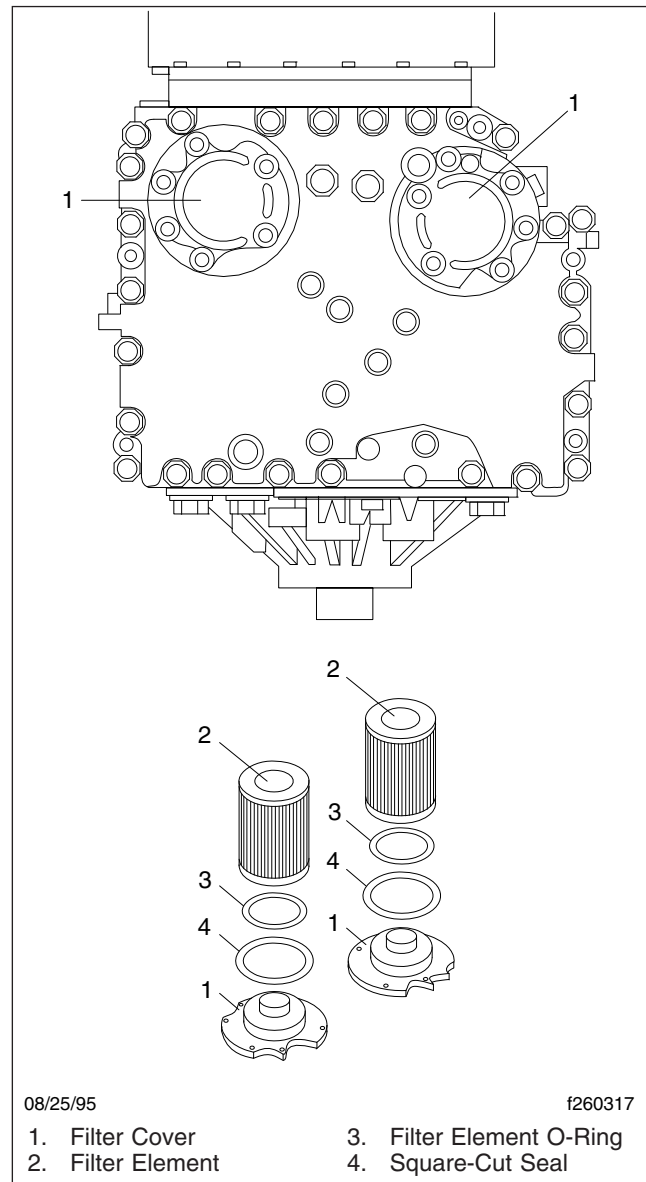

Fig. 6, Allison MD and HD Series Transmission Filter Locations and Components
5. Remove the filter covers, O-rings, and two square-cut seals from the transmission. See Fig. 6.